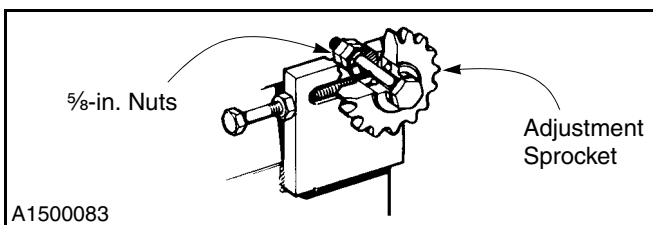

Figure 29
4. Loosen the two 5/8-in. nuts which secure the adjustment sprocket. (See Figure 29.)